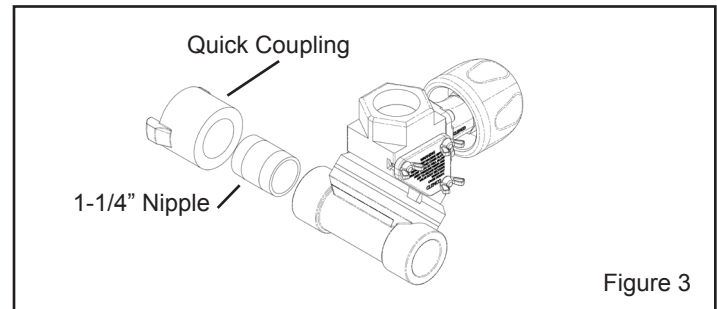

Figure 3
**2.9** Install a coupling and nipple to the wye as shown in Figure 3.